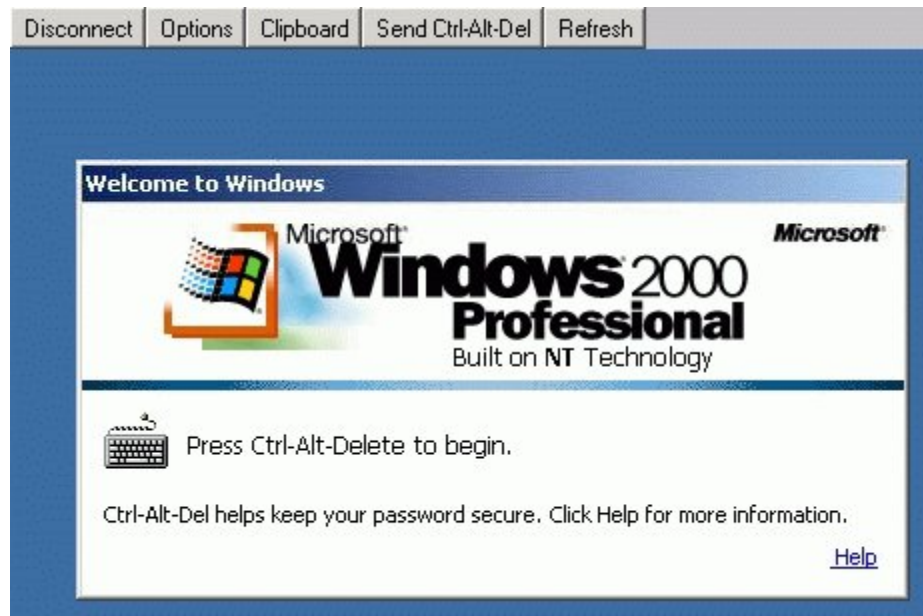

Figure 3.27. Welcome to Windows dialog box
3. Type the default TightVNC viewer password and click **OK**. The Welcome to Windows dialog box displays (Figure 3-27). The default TightVNC password is password.